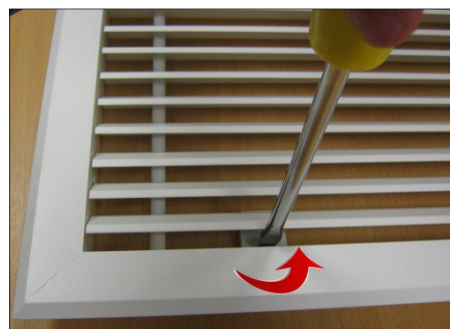

Fig 6
**Step 1** Open the hinged inlet grille using a flat bladed screwdriver to release the quarter turn fasteners (see Fig 6). There are two fasteners on the FRA1000R unit and three fasteners on FRA1500R and FRA2000R units. Before lifting the grille frame into position, remove four (six on FRA2000R) M6 bolts fitted on the inside edge of air curtain.